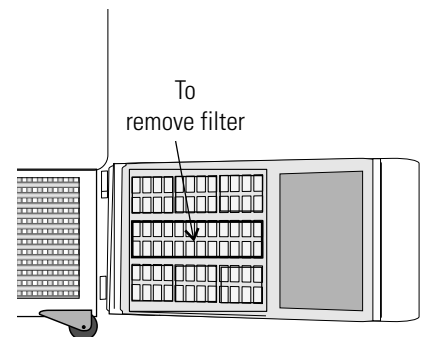

Figure 4-1. Filter Location
2. Locate the grille on the door. See Figure 4-1. Grasp the middle of the grille material and gently pull out to remove.